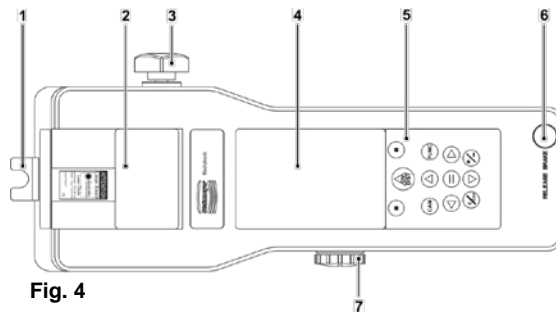

Fig. 4
For design-related reasons an offset value of (-0.0233 m) is set on the measuring instrument. The activated offset function is indicated with a symbol on the display (4, Fig. 4):
- Set the triangular grip (3, Fig. 4) on the FM5-BT to HEIGHT. Switch on the FM5-BT via the ON/DIST button (2, Fig. 5). The laser beam emerges vertically from the FM5-BT.
- Read off the catenary stagger on the measuring bar scale at the measuring mark (1, Fig. 4).
- Set the triangular grip (3, Fig. 4) on the FM5-BT to SIDE. The laser beam emerges horizontally from the FM5-BT. Now measure the distance to the laser beam reflector.
- Set the triangular grip (3, Fig. 4) on the FM5-BT to SIDE. The laser beam emerges horizontally from the FM5-BT.
- Unscrew and remove the protective cap (7, Fig. 4) on the FM5-BT and slide the protective lid that is behind it to the right.